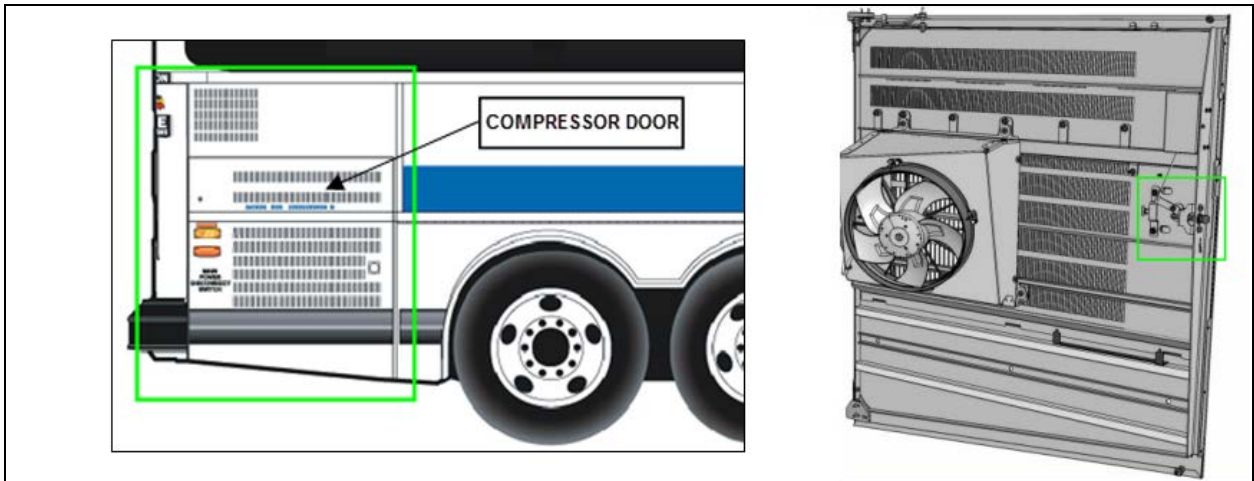

FIG.17 COMPRESSOR DOOR LATCH MECHANISM
16. Open the vehicle compressor door and locate the latch mechanism (Fig.17 & 18).